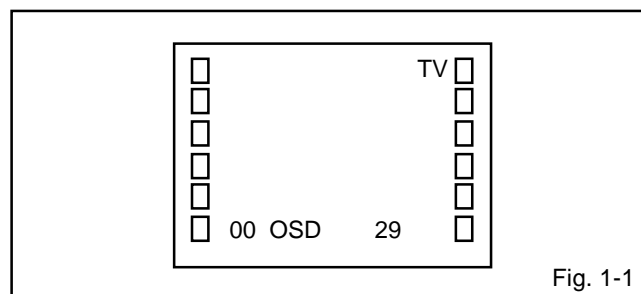

Fig. 1-1
1. In the condition of NO indication on the screen. Press the VOL. DOWN button on the set and the Channel button (9) on the remote control for more than 1 second to appear the adjustment mode on the screen as shown in Fig. 1-1.
4. Activate the adjustment mode display of Fig. 1-1 and press the channel button (01) on the remote control to select "CUT OFF".
4. Activate the adjustment mode display of Fig. 1-1 and press the channel button (12) on the remote control to select "R. BIAS".
10. If the picture is too much green. Activate the adjustment mode display of Fig. 1-1 and press the channel button (28) on the remote control to select "CB PED".
12. If the picture is too much red. Activate the adjustment mode display of Fig. 1-1 and press the channel button (29) on the remote control to select "CR PED".
3. Activate the adjustment mode display of **Fig. 1-1** and press the channel button (**07**) on the remote control to select "V. SIZE".
3. Activate the adjustment mode display of **Fig. 1-1** and press the channel button (**08**) on the remote control to select "V. LINEARITY".
2. Activate the adjustment mode display of **Fig. 1-1** and press the channel button (**33**) on the remote control to select "LEVEL".
3. Activate the adjustment mode display of **Fig. 1-1** and press the channel button (**03**) on the remote control to select "H.PHASE".
1. Activate the adjustment mode display of **Fig. 1-1** and press the channel button (**18**) on the remote control to select "CONT. MAX".
3. Activate the adjustment mode display of **Fig. 1-1** and press the channel button (**34**) on the remote control to select "SEP 1".
4. Activate the adjustment mode display of **Fig. 1-1** and press the channel button (**34**) on the remote control to select "SEP 1".
8. Activate the adjustment mode display of **Fig. 1-1** and press the channel button (**35**) on the remote control to select "SEP 2".